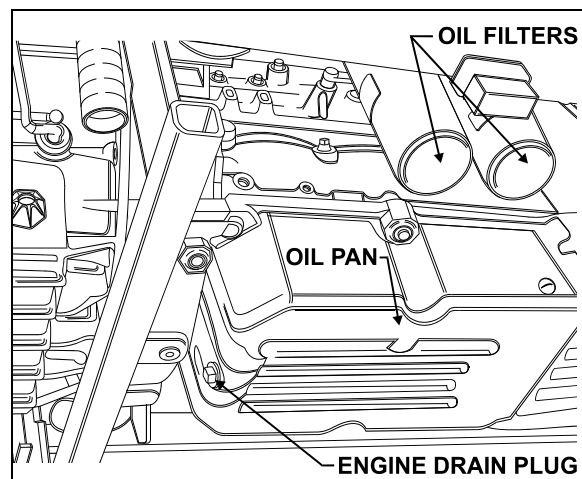

FIGURE 19: UNDER VEHICLE VIEW
1. From under the vehicle, remove the engine drain plug on the oil pan. Allow oil to drain (Fig. 19).